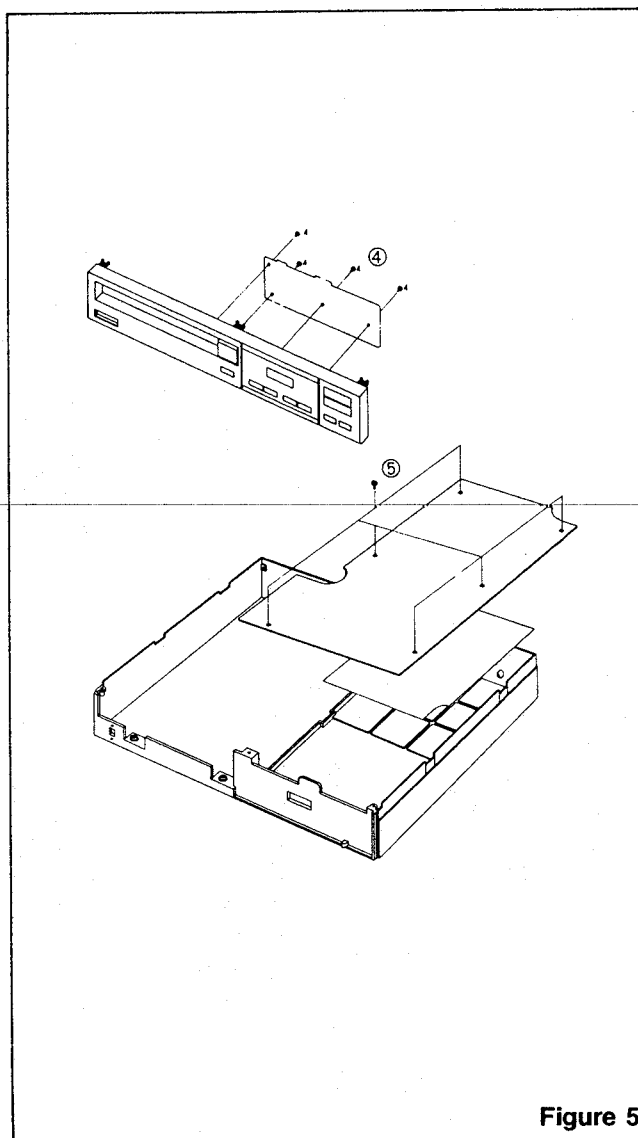

Figure 5
4. To Remove the Mechanism, After taking off the Tray, Remove 4 screws ③
5. To Remove the P.C. Board (Figure 5)